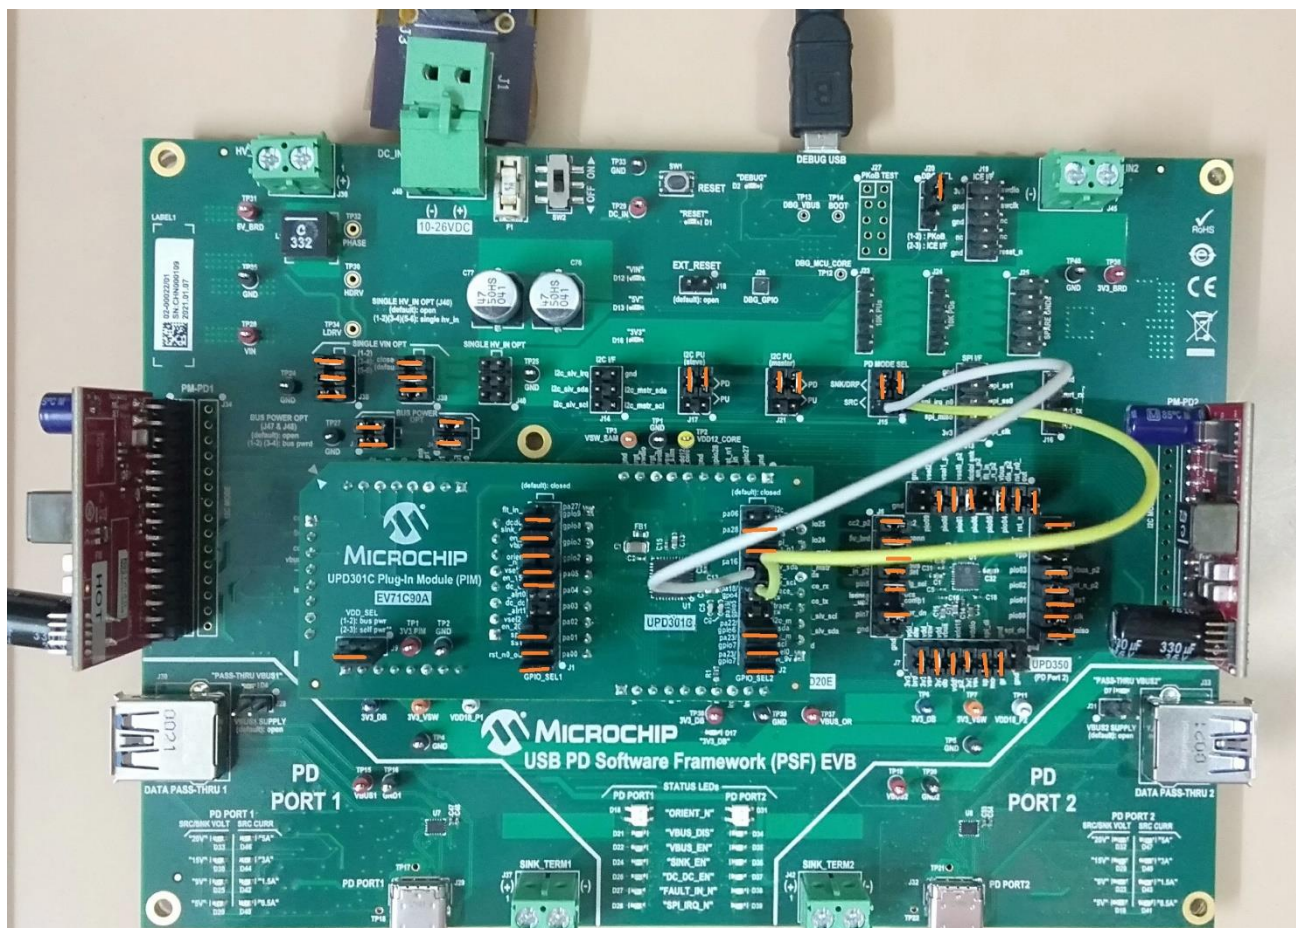

Figure 5.3 PSF-EVB with jumper connections highlighted.
3. Ensure the following jumpers are connected in PSF-EVB before proceeding to next step. . An image of PSF-EVB with all the required jumper connections highlighted is shown in Figure 5.3.
4. Connect PA17 of GPIO_SEL2 to J15.1 and PA16 of GPIO_SEL2 to J15.2 to enable DC_DC_EN_0 and DC_DC_EN_1 functionality as shown in the figure 5.3.